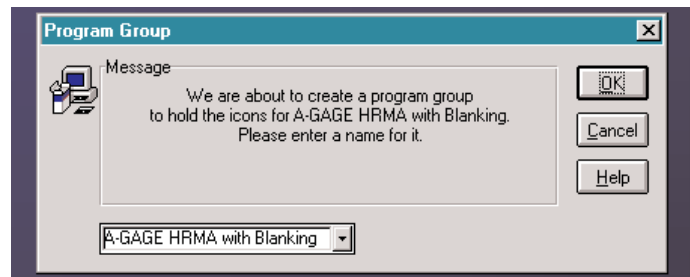

Figure 4-4. MINI-ARRAY software installation: Program Group screen
6. A Program Group dialog box appears (Figure 4-4); select **OK**. (Or if other than the High Resolution MINI-ARRAY with Blanking group is desired, change it and then click **OK**.)